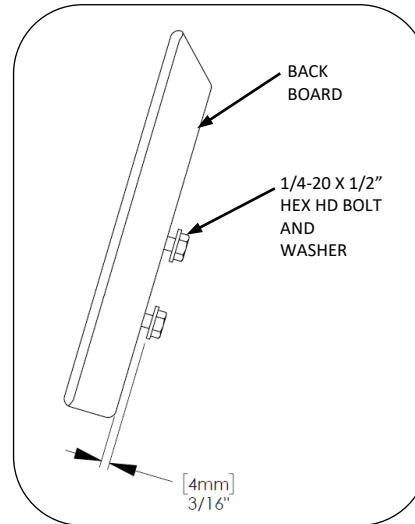

Fig. 5 – install screws on
5. Install 1/4-20 x 1/2" hex head bolts and washers into back board at all 9 threaded insert locations, see Fig. 5. Do not fully tighten – leave approx. 1/4" between board and underside of bolt head.